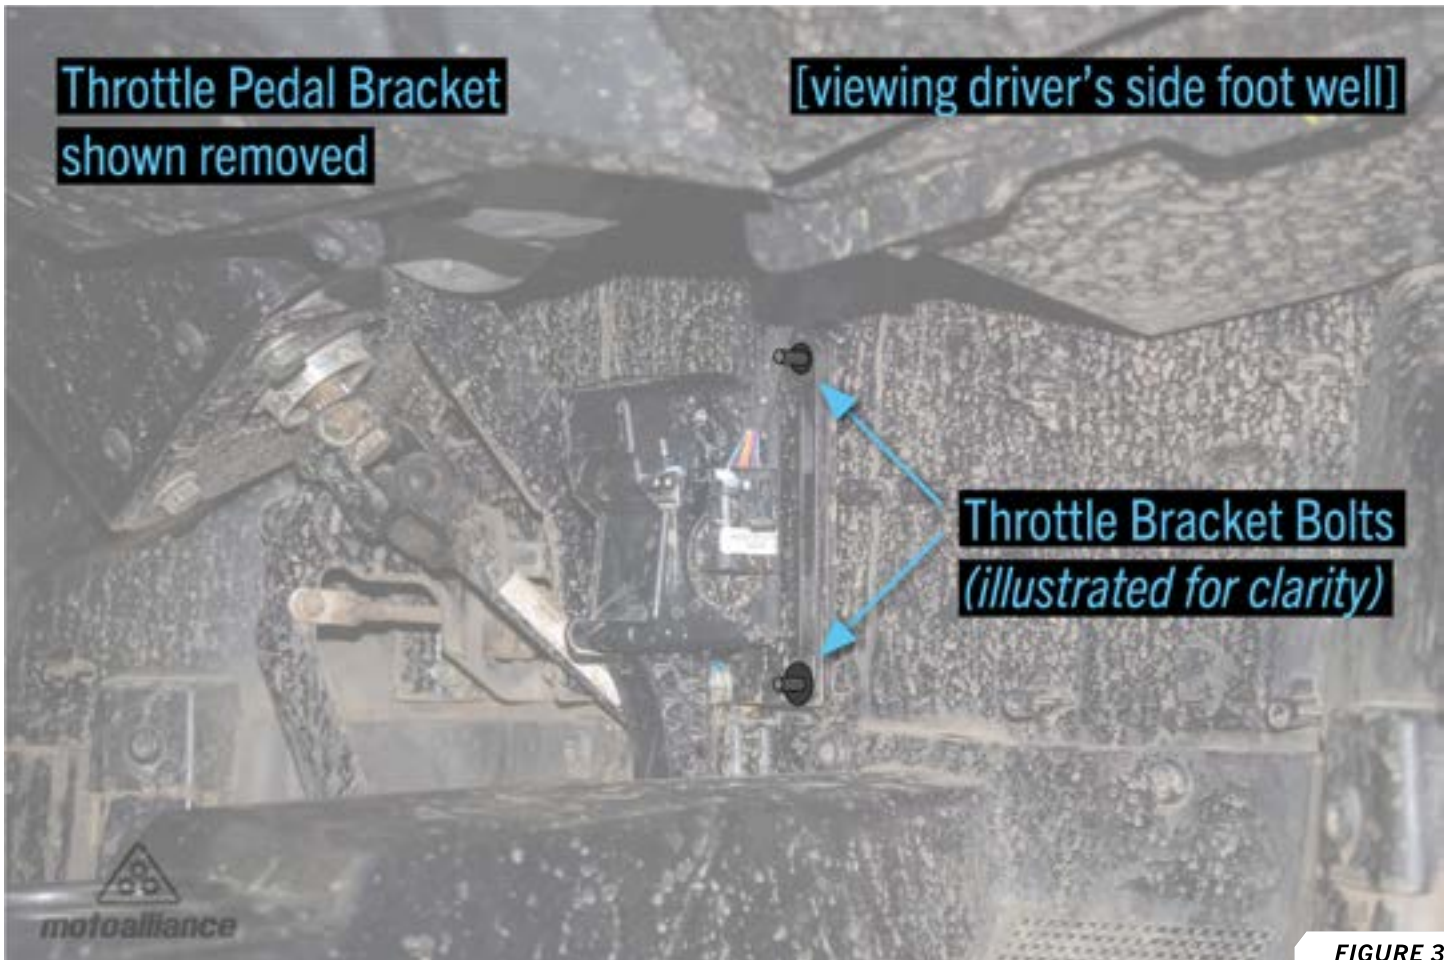

FIGURE 3
4. Remove throttle pedal bracket. *FIGURE 3*